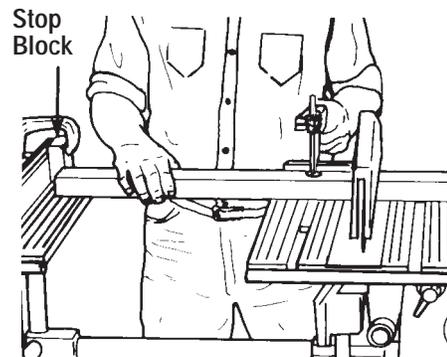

Figure D-5
10. Move the headstock and carriage so that the saw blade is the proper distance from the stop block. Make fine adjustments with the quill feed. Then butt the stock against the stop block and clamp the stock with the safety grip. See Figure D-5.